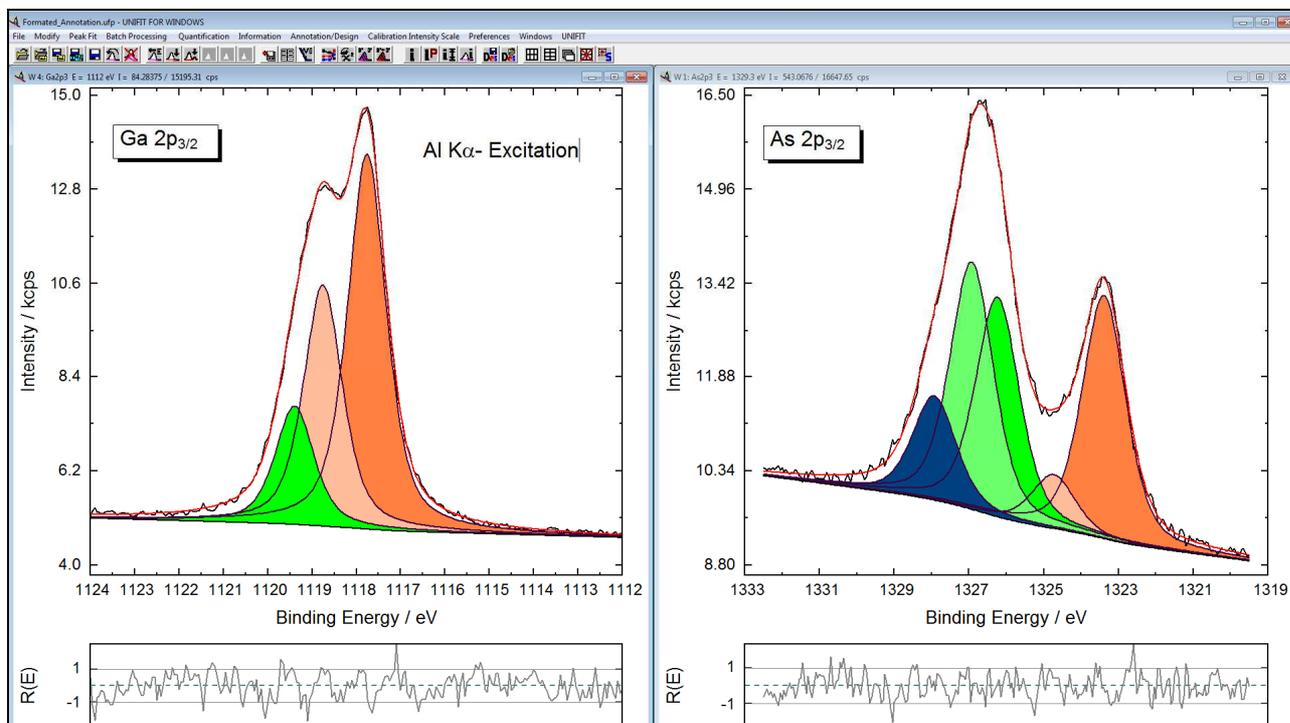
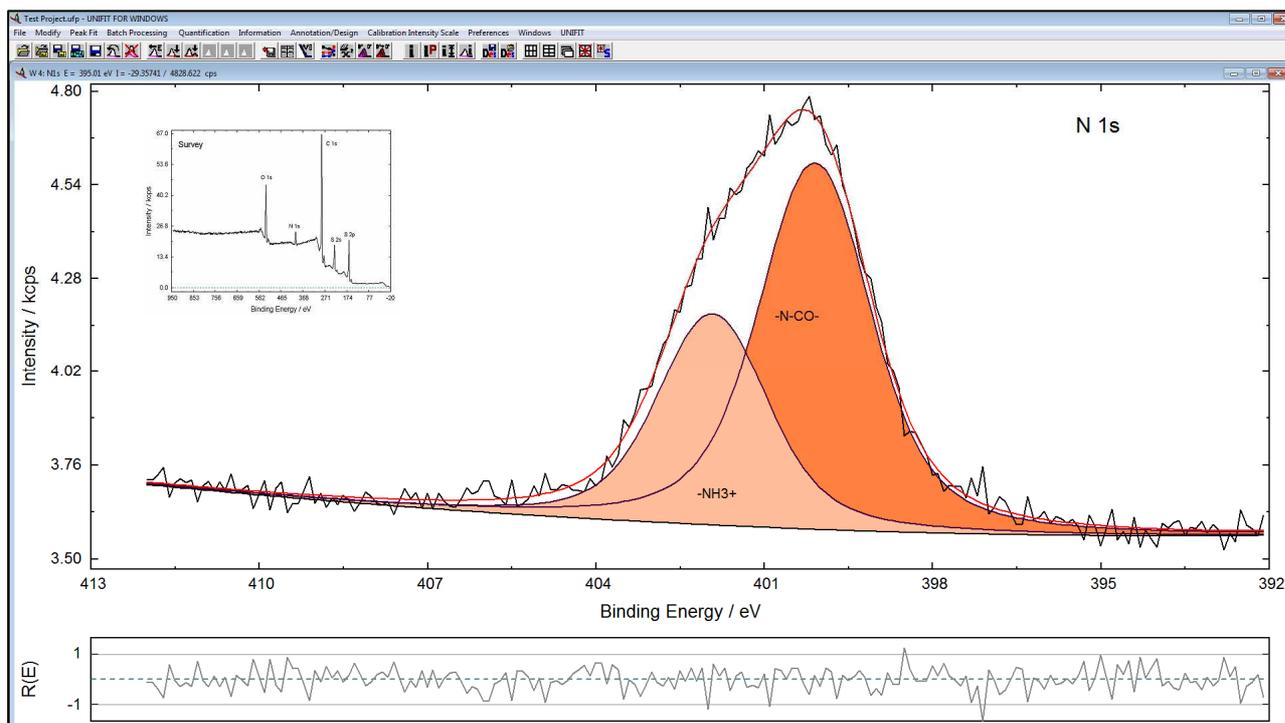

Fig. 5. Screen shot of two standard windows of UNIFIT 2012 with formatted annotations of the region name and the excitation source
Fig. 6. Screen shot of a standard window of UNIFIT 2012 (fitted N 1s spectra), embedded the corresponding survey
x) The introduction of formatted annotations (superscript, subscript, bold, italic, Greece) allows a more exact labelling of the spectra (see Fig. 5). The used *.rtf format permits a simple data transfer with other software (Word, Excel) via the clipboard. This way can be used to implement equations or pictures into the UNIFIT windows (see Fig. 6).